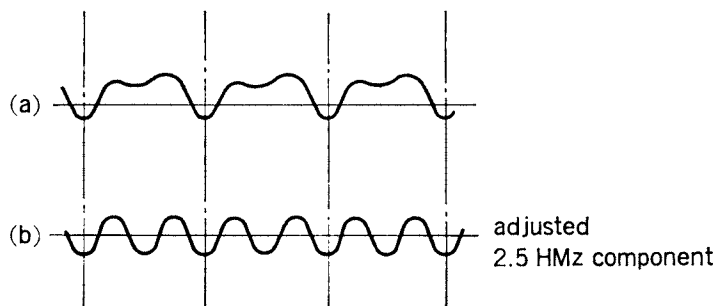

Fig. 10
6. While observing the oscilloscope waveform adjust the R354 (LIMITER BALANCE) and R365 (DEMOD. BALANCE) alternately to minimise the 2.5 MHz signal of which the waveform is described in Fig. 10-b below.